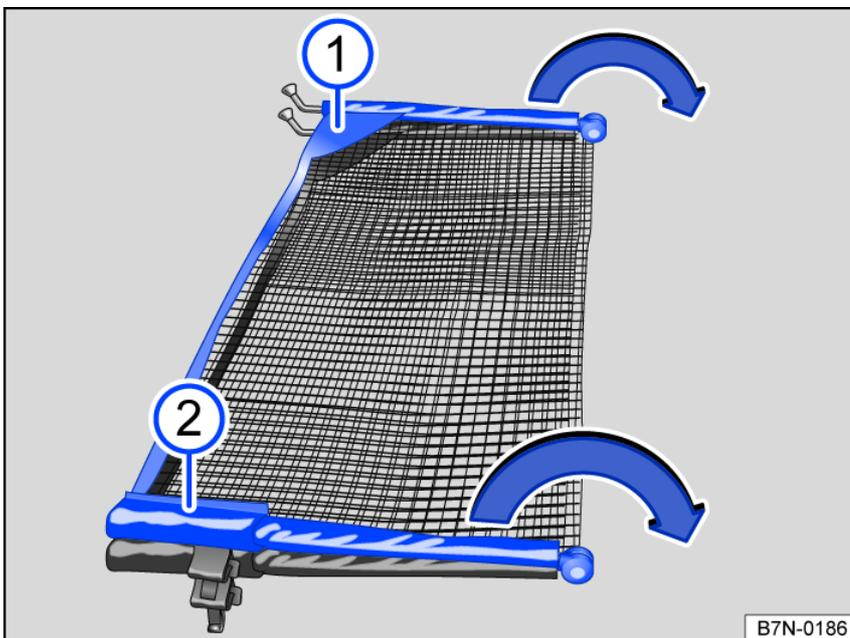

Fig. 154 Folding out the net partition.
Fold out the net partition crossbars *fig. 154* ① and ② in the direction of the arrows until you hear a “click”.